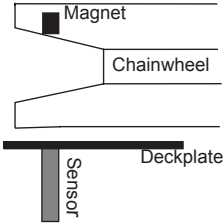

Fig 2
**Magnet Fit:** Some windlasses are predrilled and others need a special fit. Please check with your supplier. The usual fit is as follows: Drill a hole 10.3mm (13/32") diameter and 9.5mm (3/8") deep into a spoke in the top of the chainwheel. Cover the magnet with a minimum of 1mm epoxy. The magnet and sensor must be aligned so that the anchor rode passes between them. See Figs 2 & 3.